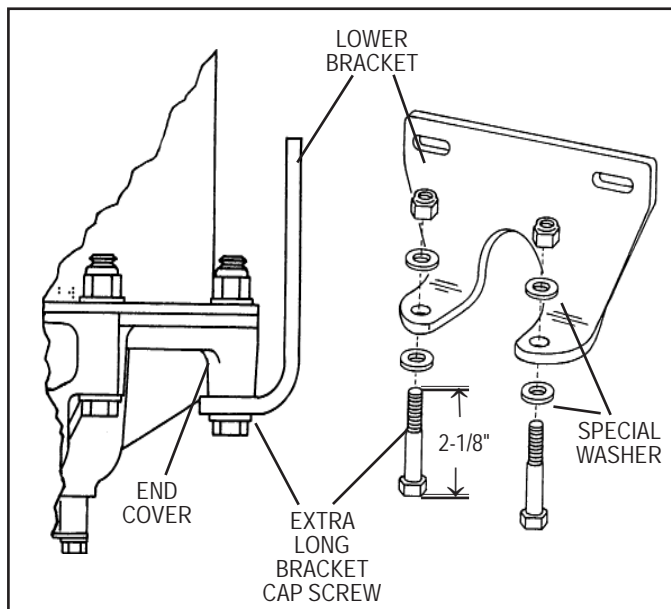

FIGURE 14 - LOWER BRACKET INSTALLATION
1. Install the assembled Bendix® AD-9® or AD-9® IPC air dryer back onto the vehicle by slipping it into the upper mounting bracket. Align the two unused holes in the end cover with the bottom mounting bracket such that the bottom bracket supports the air dryer. The air dryer end cover should rest on the bracket. Using the remaining two 3/8" cap screws, four special washers, and two locknuts, secure the air dryer to the lower bracket. Tighten, then torque the two remaining cap screws to 270–385 in. lbs. See Figure 14.